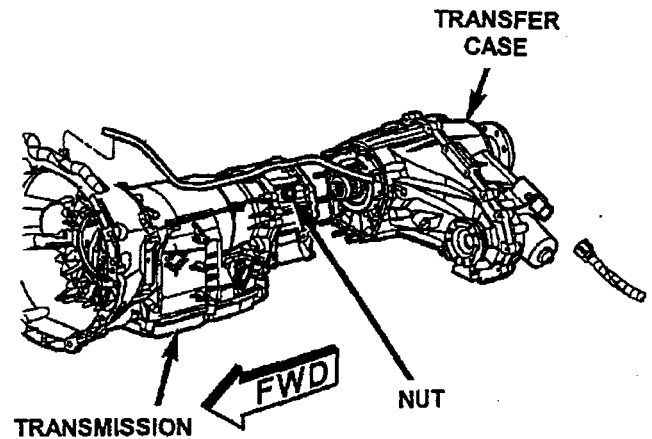

Figure 4
9. **On vehicles equipped with four wheel drive**, remove the nuts that attach the transfer case to the transmission (Figure 4).